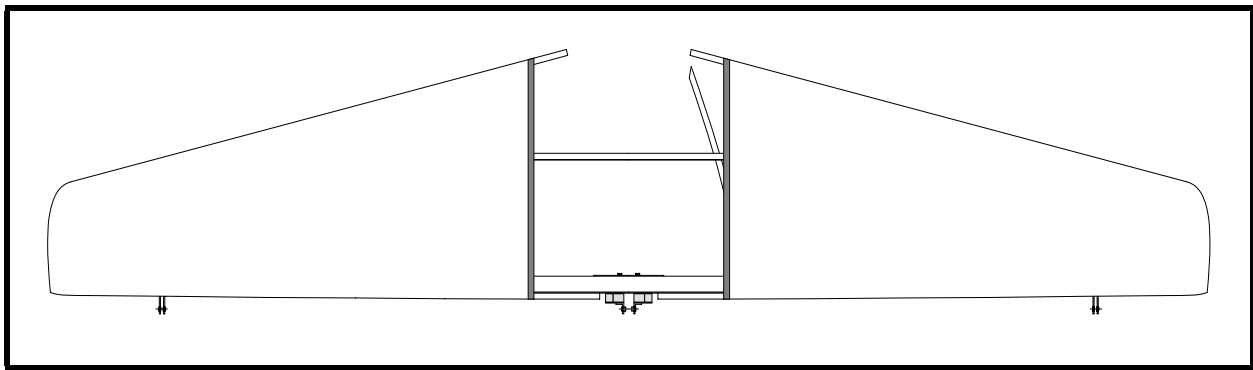

Figure 13
- ❑ Fit the skins to the stabilizer. See Figure 13. These skins will extend from the ends of the stabilizer to the ribs at Sta. 1. Leave extra material at the tip for bending the compound bend. Use small nails as alignment pins.